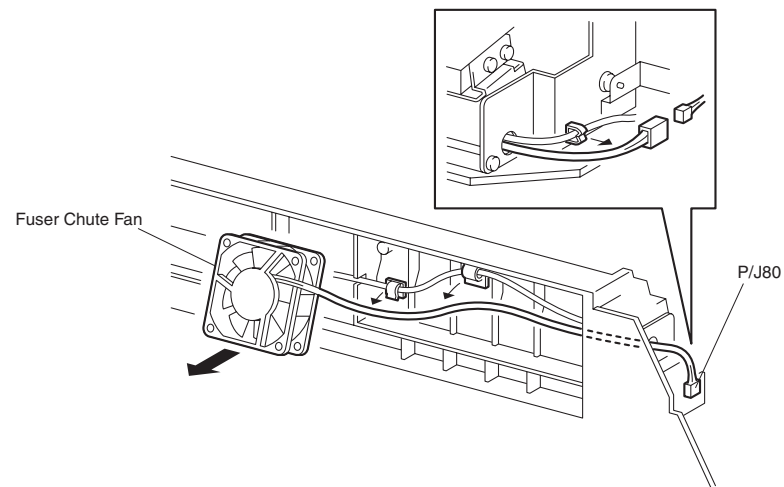

Figure 2
4. Remove the Fuser Chute Fan from the Fuser Tray (Figure 2).